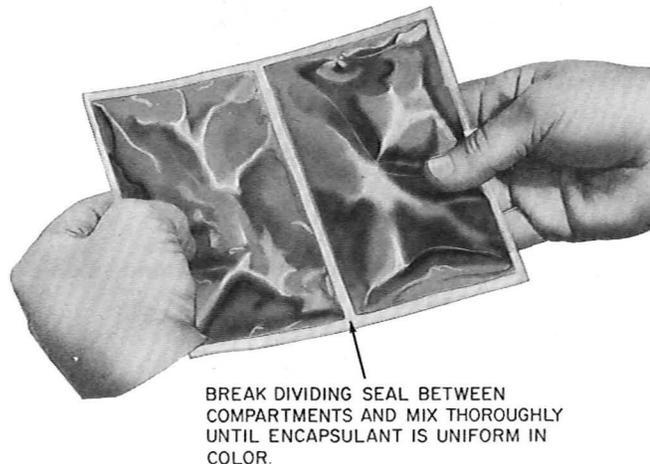

Fig. 8—Mixing Encapsulant
- Mix the components in the plastic bag by kneading thoroughly (Fig. 8).